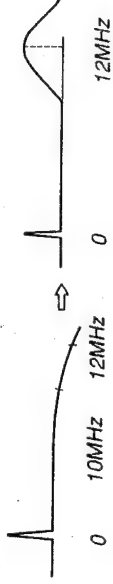

Fig. 4-3.
3. Adjust output waveform peak to 12 MHz with CV102 of the BA board as shown in Fig. 4-3.